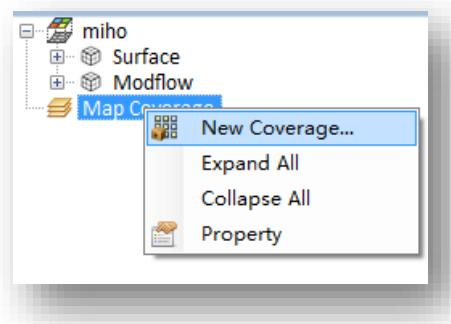

Figure 5-15. Create New Coverage for LPF.
- 7) Up to now, the flows properties have been set for the first grid layer. Following the steps from 1 to 6, you can set the properties for layer 2 and layer 3. Note that when assigning values to properties of layer 2, you should select “2” from the Grid Layer dropdown list in Figure 5-15 and import the “lpf_layer2.csv” to update the lookup table.